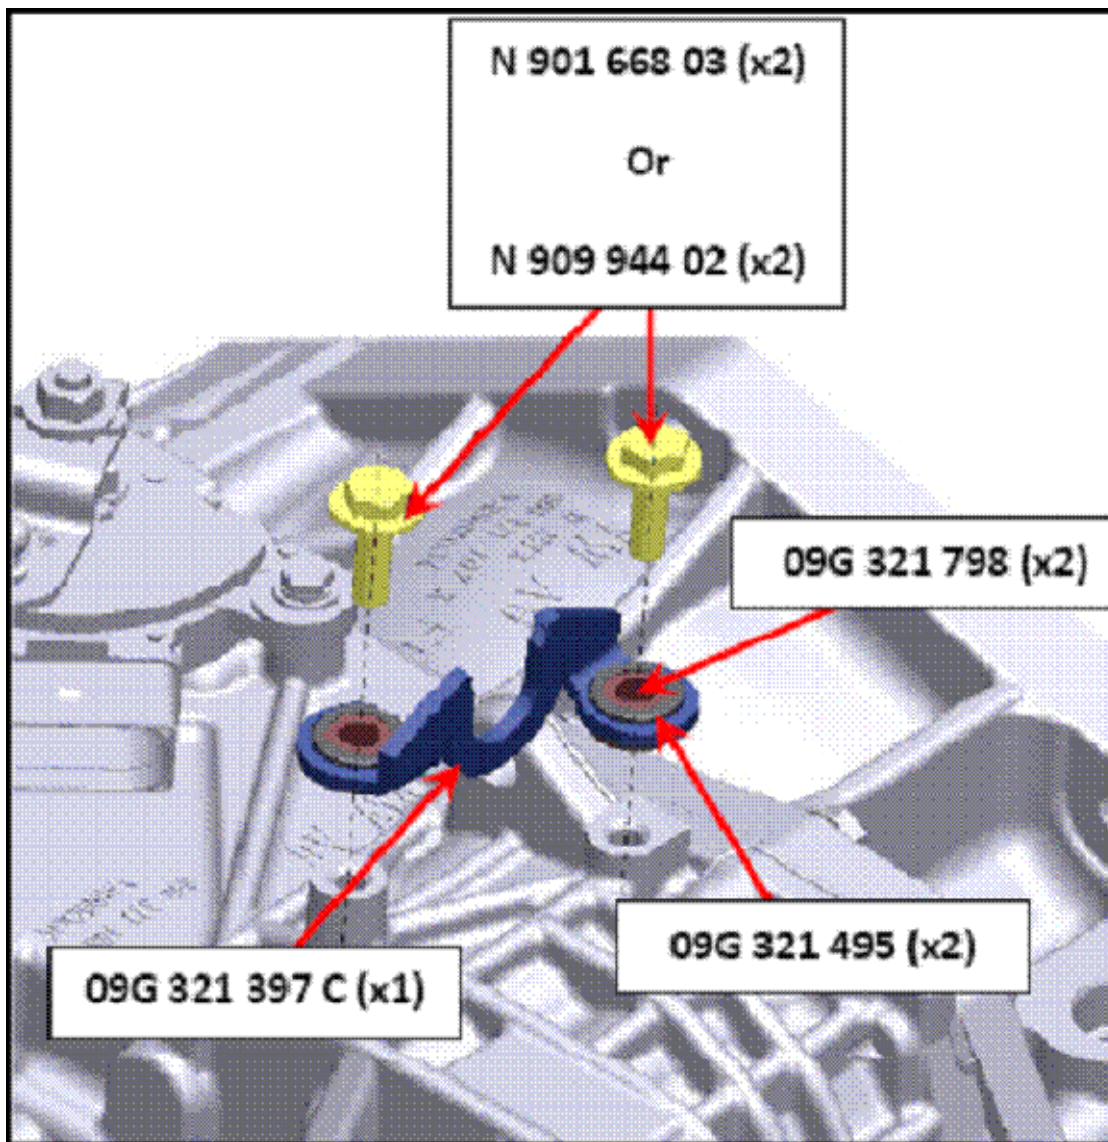

Figure 3
- Install front shifter cable bracket Part No. 09G 321 397 C (1), grommets 09G 321 798 (2), sleeves 09G 321 495 (2) and bolts Part No. N 901 668 03 (2) Or Part No. N 909 944 02 as indicated in figure 3.